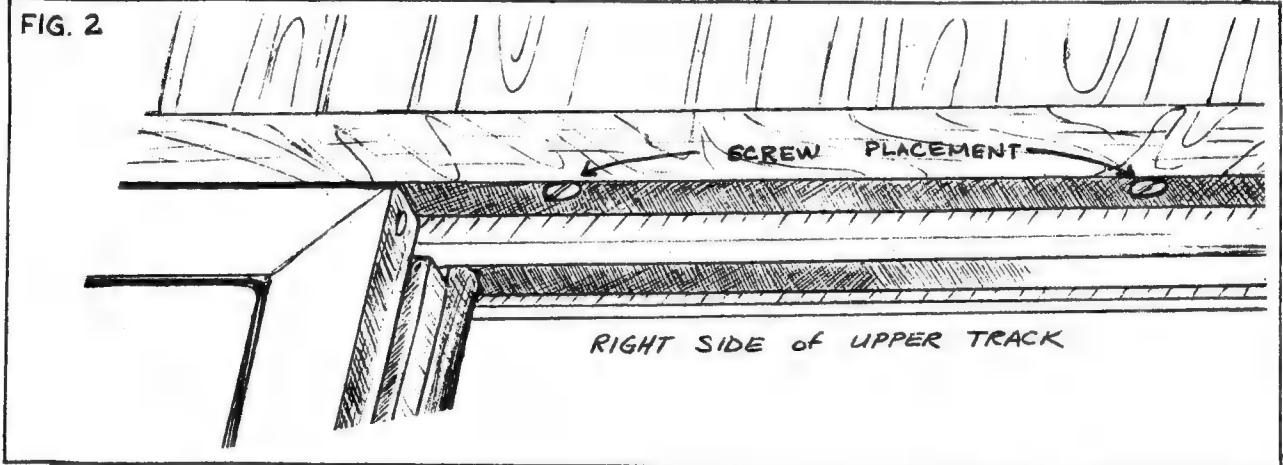

FIG. 3
- a. Installation requires drilling a 3/4 inch long slot approximately one inch from the top of the guard channel on the inner door. FIG. 3.